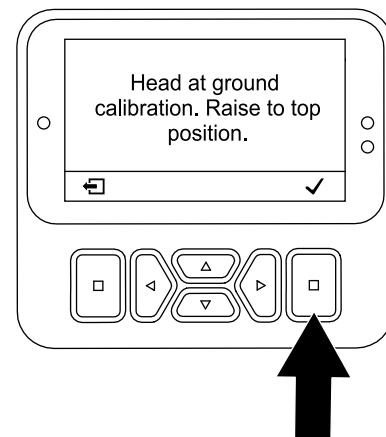

Figure 108
- If the tines begin to penetrate the ground—press the select button (Figure 108) and run the TEACH GROUND HEIGHT application; refer to Running the Teach Ground Height Application \(page 36\).